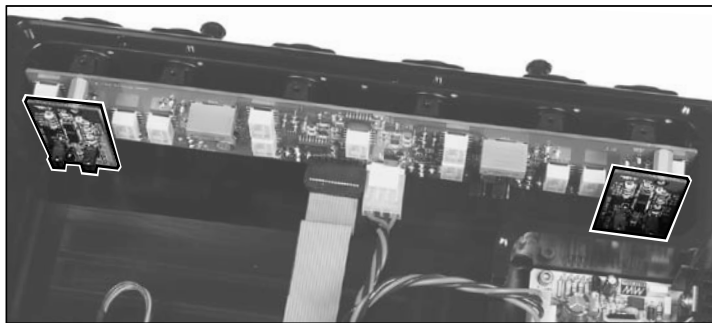

FIGURE 7: Location of both Phono Cards within the CAPRI chassis
STEP 3: Locate and remove the phono card from the back panel by easing it gently back and forth until it separates from the unit. (See FIGURES 7 and 8)